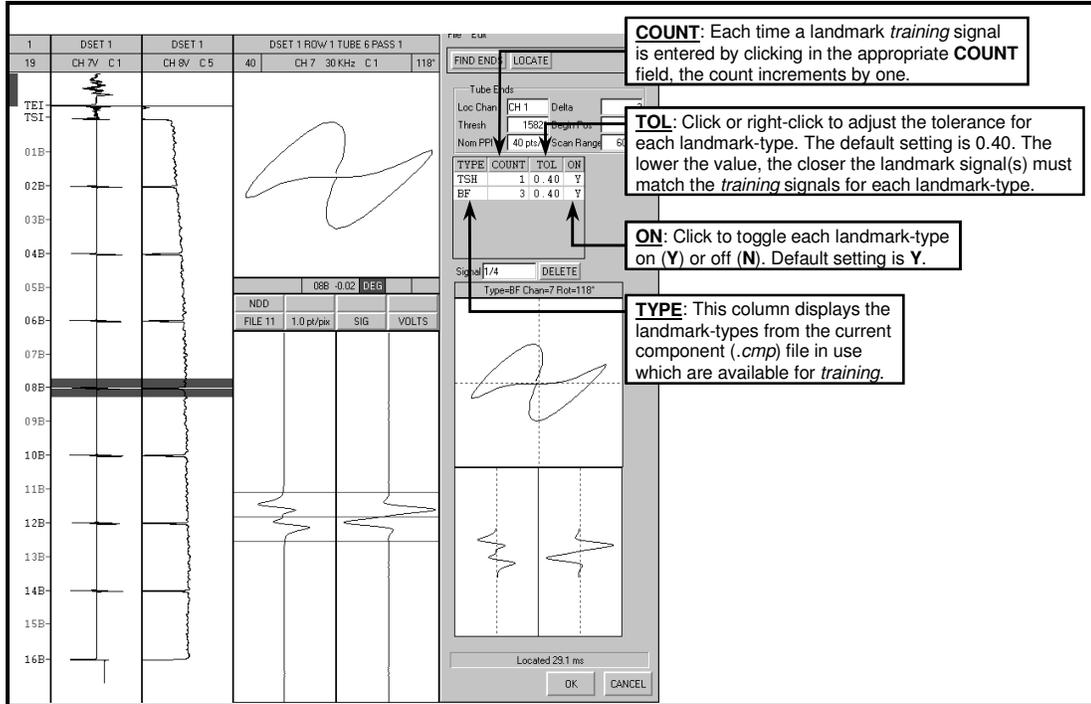

Figure 3-109. Auto Locate Dialog - Landmarks Training Section
The **Landmarks Training** section of the **Auto Locate** dialog shown in Figure 3-109 is discussed below. This section contains settings used to *train* the software to automatically recognize, locate, and label valid landmarks other than tube ends within each data file of a data set.
- ❑ **Auto Locate > Count:** The **Count** column displays an integer equivalent to the number of *training* signals, which have been provided to the software during the *training* process. To assign a *training* signal, center the desired landmark in the left-most Lissajous window and expanded chart on the **Main Analysis** screen using the desired eddy current channel, then **click** once in the appropriate **Count** field for that landmark. The **Count** field increments by one (1). For example in Figure 3-109, a baffle plate signal on channel #7 was centered in the expanded chart then the count field was clicked. This action caused the software to display the *training* signal in the Lissajous and expanded chart on the **Auto Locate** dialog as shown. Furthermore, the **Signal** field incremented by one (1). **Clicking** or **right-clicking** in the **Signal** field allows the user to review *training* signals which have been provided to the software during the *training* session. Additional *training* signals may be provided to the *training set* at anytime from any desired channel. **Clicking** the **Delete** button while a *training* signal is displayed deletes or clears the currently displayed *training* signal from the *training set*.
- **Auto Locate > TOL:** The **TOL** column displays the tolerance value for a given landmark type. In Figure 3-109, a **TOL** value of *0.40* is displayed which is the default **TOL** setting. **Clicking** in the **TOL** field for a given landmark-type increases the value by *0.01* while **right-clicking** decreases the value by the same. Holding down **Shift** before **clicking** or **right-clicking** the **TOL** field changes the value by *0.10*. The lower the value, the closer the given landmark signals must match the training signal for a given landmark. A higher value relaxes the tolerance.
Note in Figure 3-109 that **Auto Locate** has located and labeled the valid landmarks within the data file. This is obvious since the landmark labels are displayed along the landmark strip in the left-most strip of the **Main Analysis** screen. Landmarks that are present in the current data file are displayed in *white* while those that are not present are displayed in *red*. For example, baffle plate *04B* is present and labeled; however, baffle plate *05B* is not present and the software displays *05B* in *red* in the general location along the data file where this baffle plate would be if it were present.